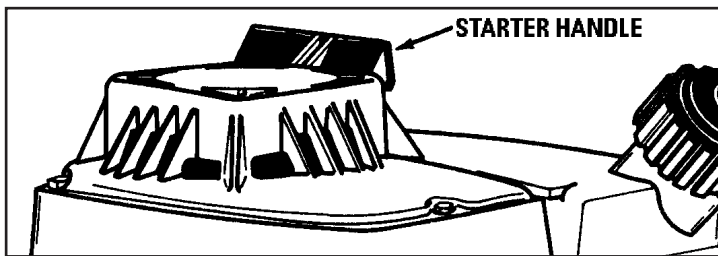

Figure 4
- C. Grasp starter handle (see Figure 4) and pull rope out, slowly, until it pulls harder. Let rope rewind slowly. Then pull rope with a rapid short arm stroke. Let rope return to starter slowly.